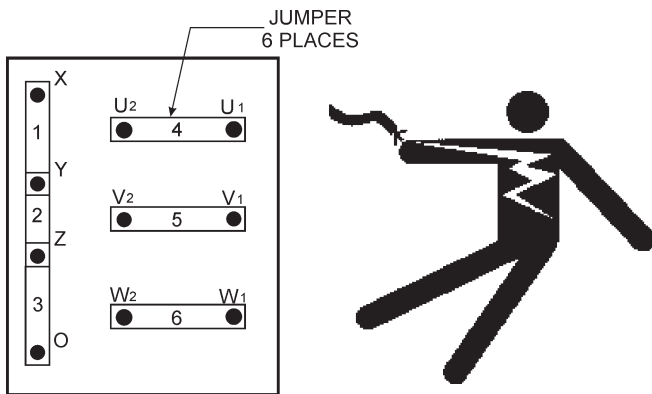

Figure 14. Voltage Change-Over Board
A wide range of voltages are available to supply voltage for many different applications. Voltages are selected by applying jumpers (6) to the **voltage change-over board** (Figure 14). To obtain some of the voltages as listed in Table 6 (see below) will require a fine adjustment using the **voltage regulator (VR) control knob** located on the control panel.
The **voltage change-over board** (Figure 14) is located on the control box, behind the generator control panel. This board has been provided for ease of voltage selection.